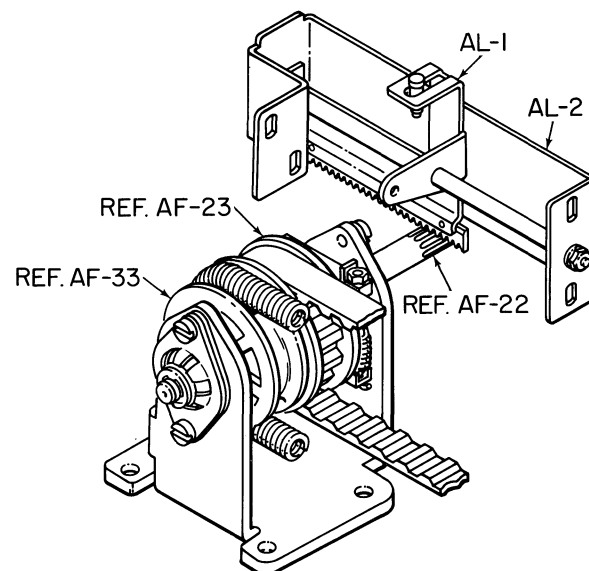

Figure 5-15. RACK AND PINION ADJUSTMENT, RIBBON MECHANISM
2. Adjust rack guide plate so that teeth on movable ribbon feed rack (AL-1) drop down and mesh with pinion teeth (splined shaft, AF-22) (See Fig. 5-15). Maintain backlash of 0.1 mm (0.004-in.).